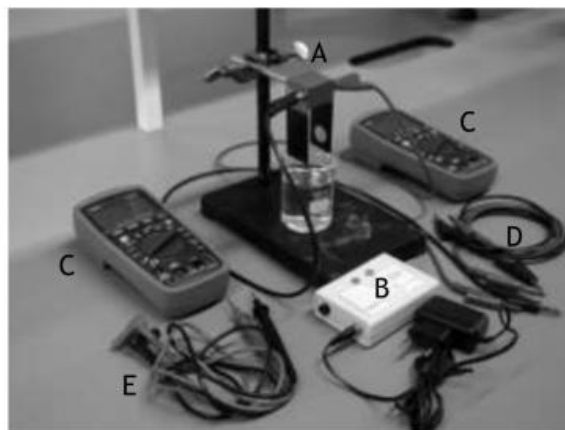
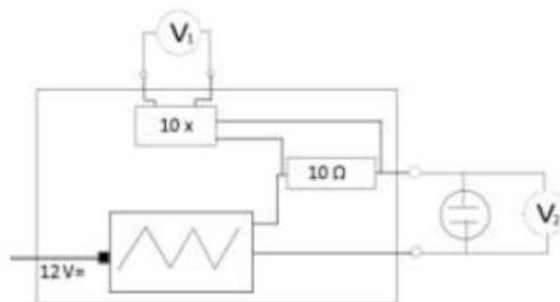

Figure 3 - Materials for the setup of the experiment
Figure 4 - Schematic of the power supply box. The symbol \oplus is used for the electrodes.
- A set of two gold-plated electrodes (part A in Figure 3)
- AC power supply box (B) (without cable)
- Two digital multimeters (C)
- Four electricity wires (red, black, 2x blue) (D) and two wires of a multimeter (red, black) (E)
In this experiment the electrical conductance of the salt solutions will be determined with the materials depicted in Figure 3. A set of gold plated electrodes is submerged in a beaker containing the salt solution. The electrodes must be connected to a power supply, which delivers an alternating voltage with a high frequency (1 kHz) and a low voltage. This is needed to prevent electrolysis of the salt solution. From the measurement of voltage across and current through the electrodes the electrical conductance can be determined. In Figure 4 a schematic of the power supply is shown, with the AC voltage supply depicted as the box with the triangle shaped symbol. During the experiment we will connect the ports on the right side with the electrodes for the conductance measurements. In order to measure the current, the box contains a resistor $R_1 = 10 \Omega$ and an amplifier to amplify the voltage across the resistor 10 times. The output is measured between the two upper ports.
3. Build the electrical circuit using the schematic from Figure 4. Make sure the multimeters are in the mV \approx AC setting (using the blue button so that 'AC' appears in the display) for alternating current, and connected to the appropriate sockets.